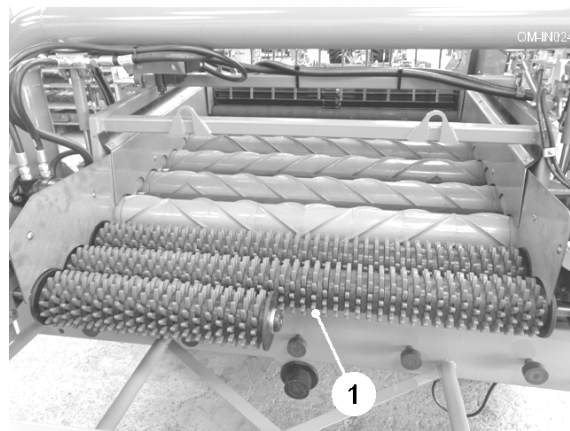

Fig. 17
The star spreader unit (item 1, fig. 17) distributes the crop evenly over the width of the discharge elevator or windrow conveyor. On machines with Galaxy separator the spreader is chain driven from the Galaxy unit. On machines with Omega separator the spreader is hydraulically driven from the separator hydraulic valve. ON/OFF and speed control are provided from the control box.